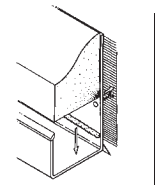

FIGURE 6
2. Fit closure around THERMAX™ board edge (Figure 6).